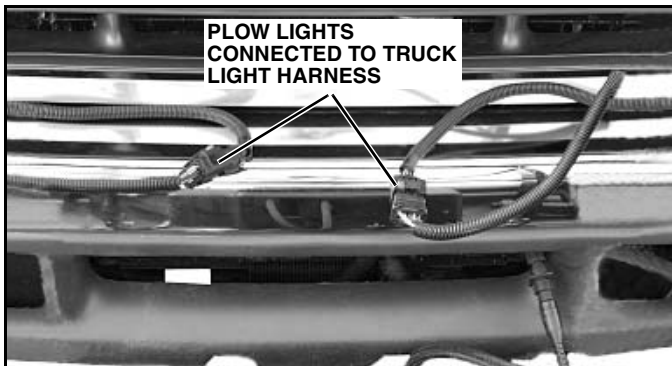

Figure 1-39
2. Disconnect the plow lights from the truck light harness. (See Figure 1-39). Disconnect the plow control harness and replace the protective cap.